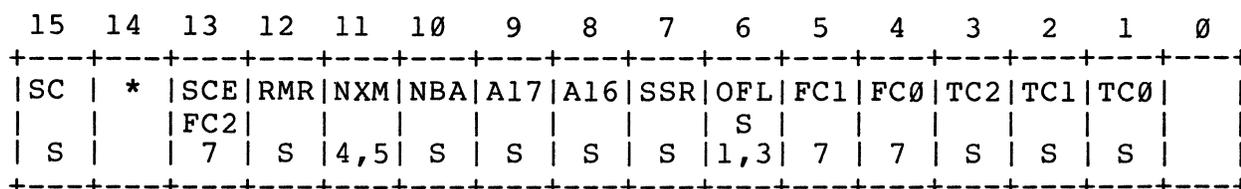

Figure 3-7 TSSR Register
3.3.2.3 Status Register (TSSR) -- TSSR is a 16-bit register. Although defined as a Read/Write register, its contents cannot be directly modified by the LSI-11 Bus. It can be read to examine status, but writing into it causes a hardware initialize of the controller. (A DATOB) to the high byte only of the TSSR, however, loads the extended TSDBX). The contents of the register is modified by the M7196 controller. The register format is illustrated in Figure 3-7. Table 3-5 gives the register bit definitions. If the initialize diagnostic fails, this register has alternate bit definitions.